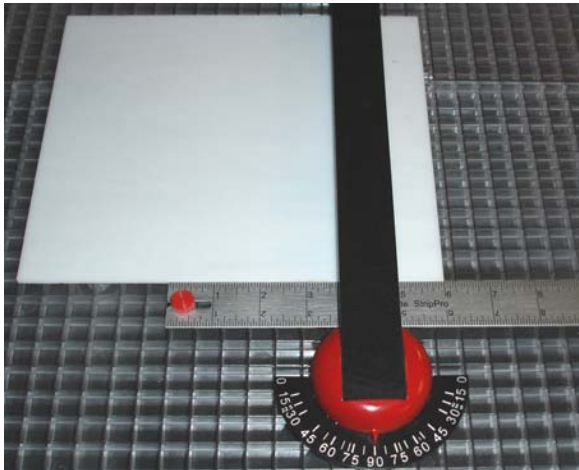

figure 1
1. Place the glass on the ruler. (figure 1) Any number can be your point of origin. Let's use the number 5 on the ruler as our point of origin. If we slide the glass right to the number 6 and make a score, we will have a **1 INCH** strip.